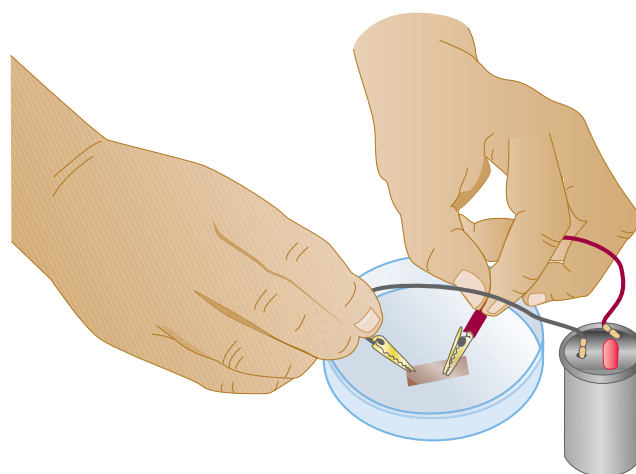

Figure 5 Testing for conductivity.
3. *Conductivity*: If an electrical conductivity apparatus is available, use it to test each sample. **CAUTION**: *Avoid touching the bare electrode tips with your hands; some may deliver an uncomfortable electric shock.* Touch both electrodes to the element sample, but do not allow the electrodes to touch each other. See Figure 5. If the bulb lights, even dimly, electricity is flowing through the sample. Such a material is called a **conductor**. If the bulb fails to light, the material is a **nonconductor**.